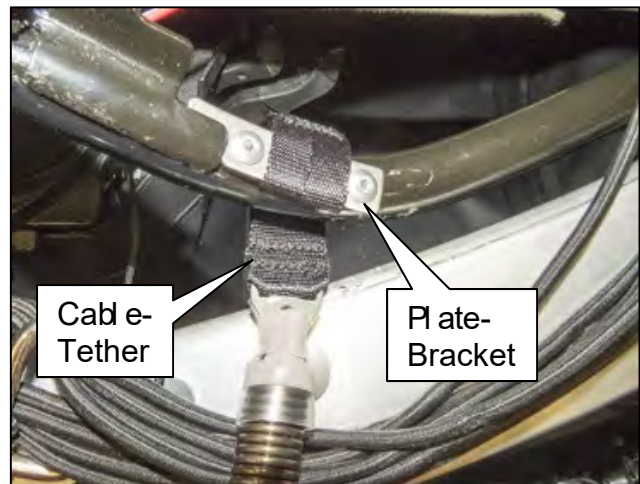

Figure 31
34. Attach the plate-bracket/Cable Tether assembly to the 5th bow linkage with two (2) pop rivets as shown in Figure 31.
35. Temporarily route the Cable-Tether (see Figure 31).